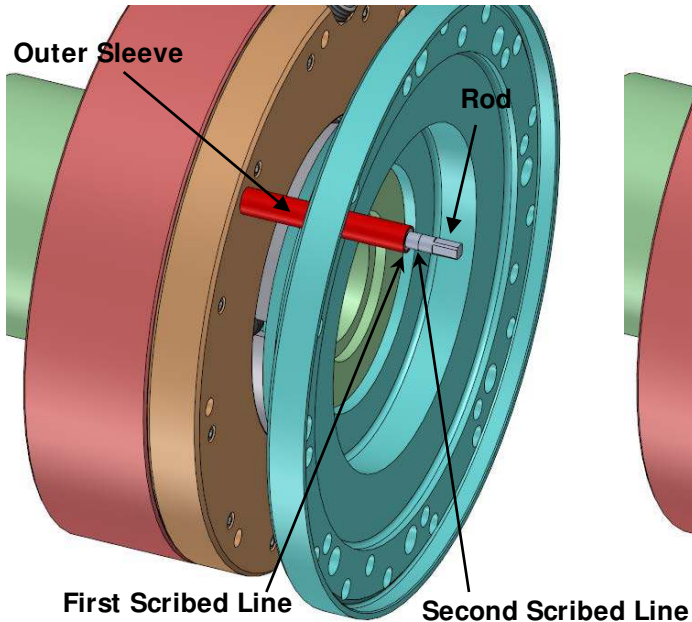

Figure 6a - Setting Initial Grip Position
3.4.11 The proper setting of the HTC is accomplished by the separation or gap between the two halves of the clamp (see Figure 1a). Special Gap Tool (Riverhawk PN 7500596) has been provided to facilitate this setting. Be sure you maintain the First Grip Position from the previous step until the tool is in place. Thread the gap tool into one of the retraction screw holes until the outer sleeve aligns with the first scribe line on the rod (see Figure 6a). The tool is spring loaded so you will need to push and turn in order to start the thread.